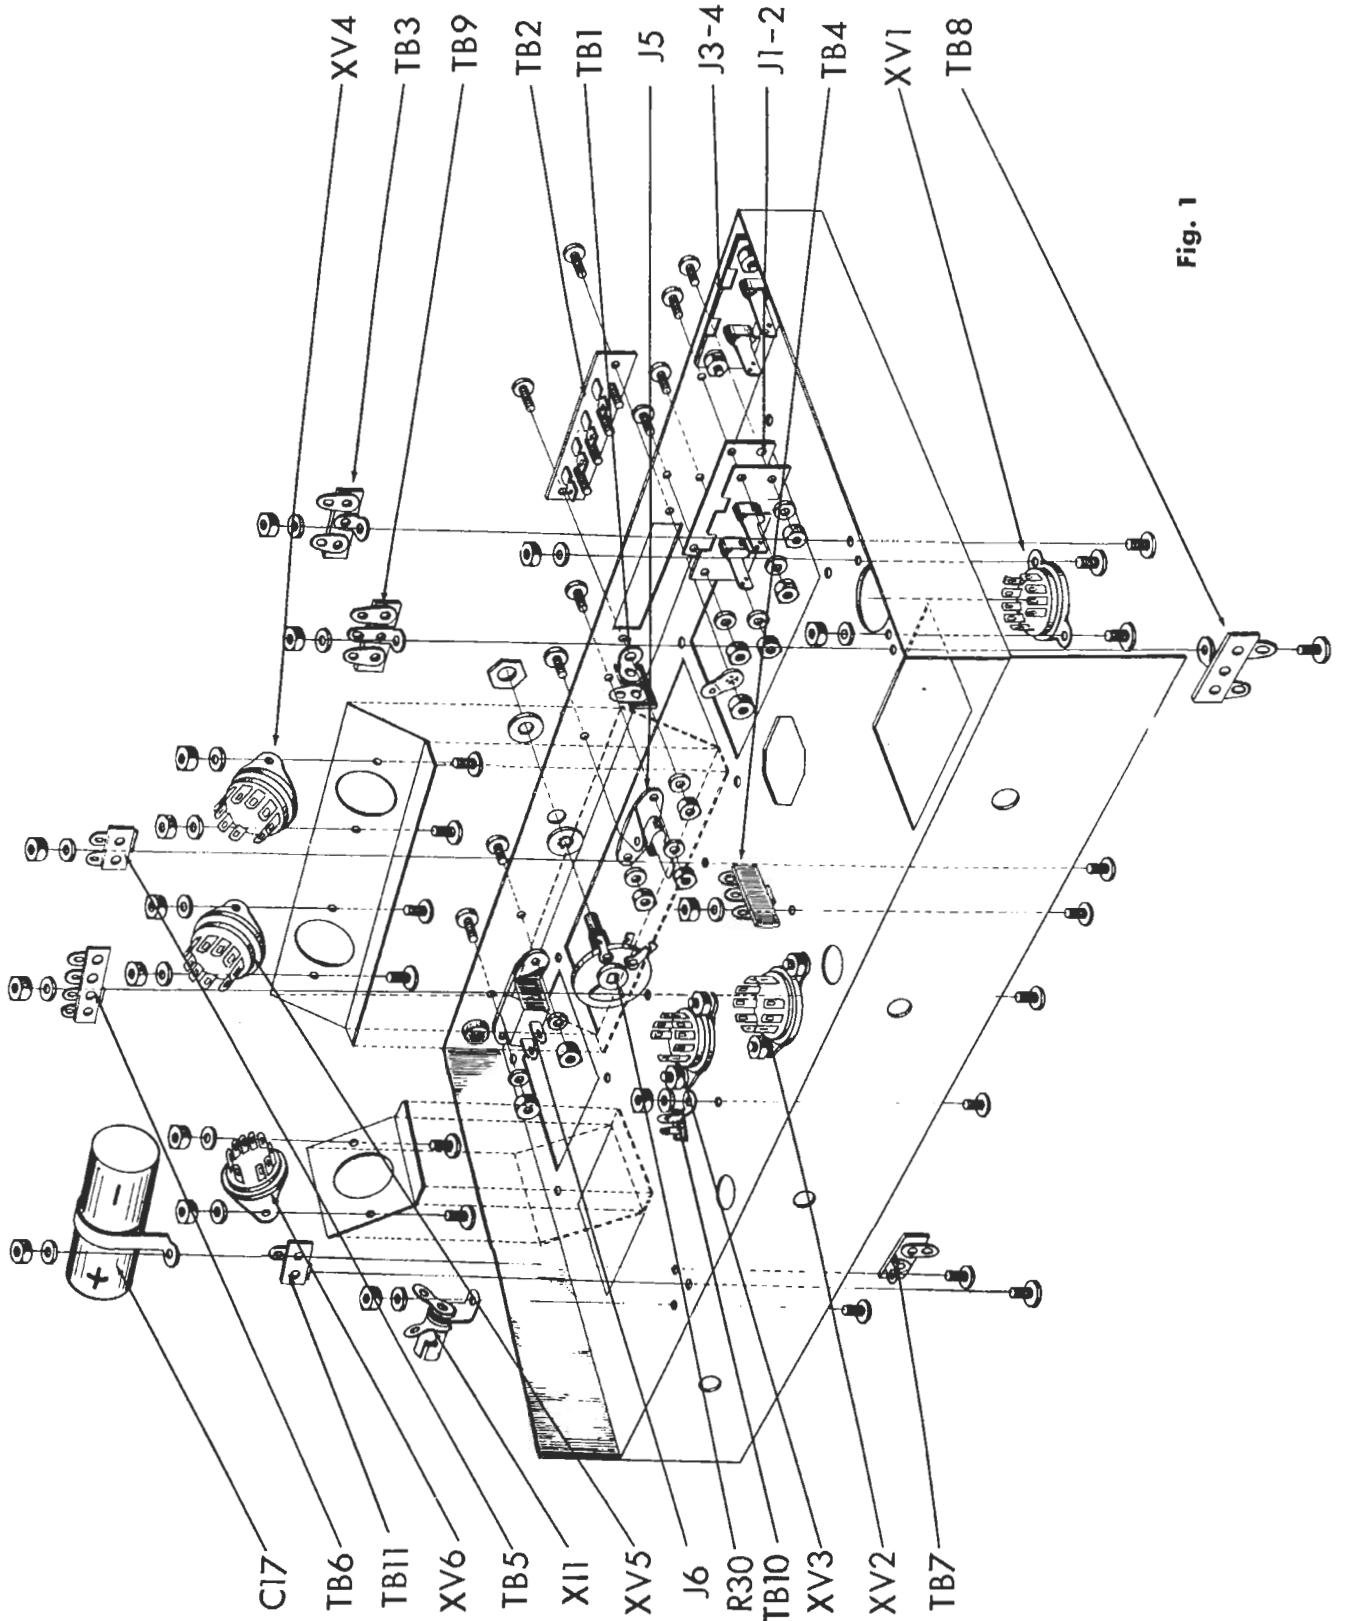
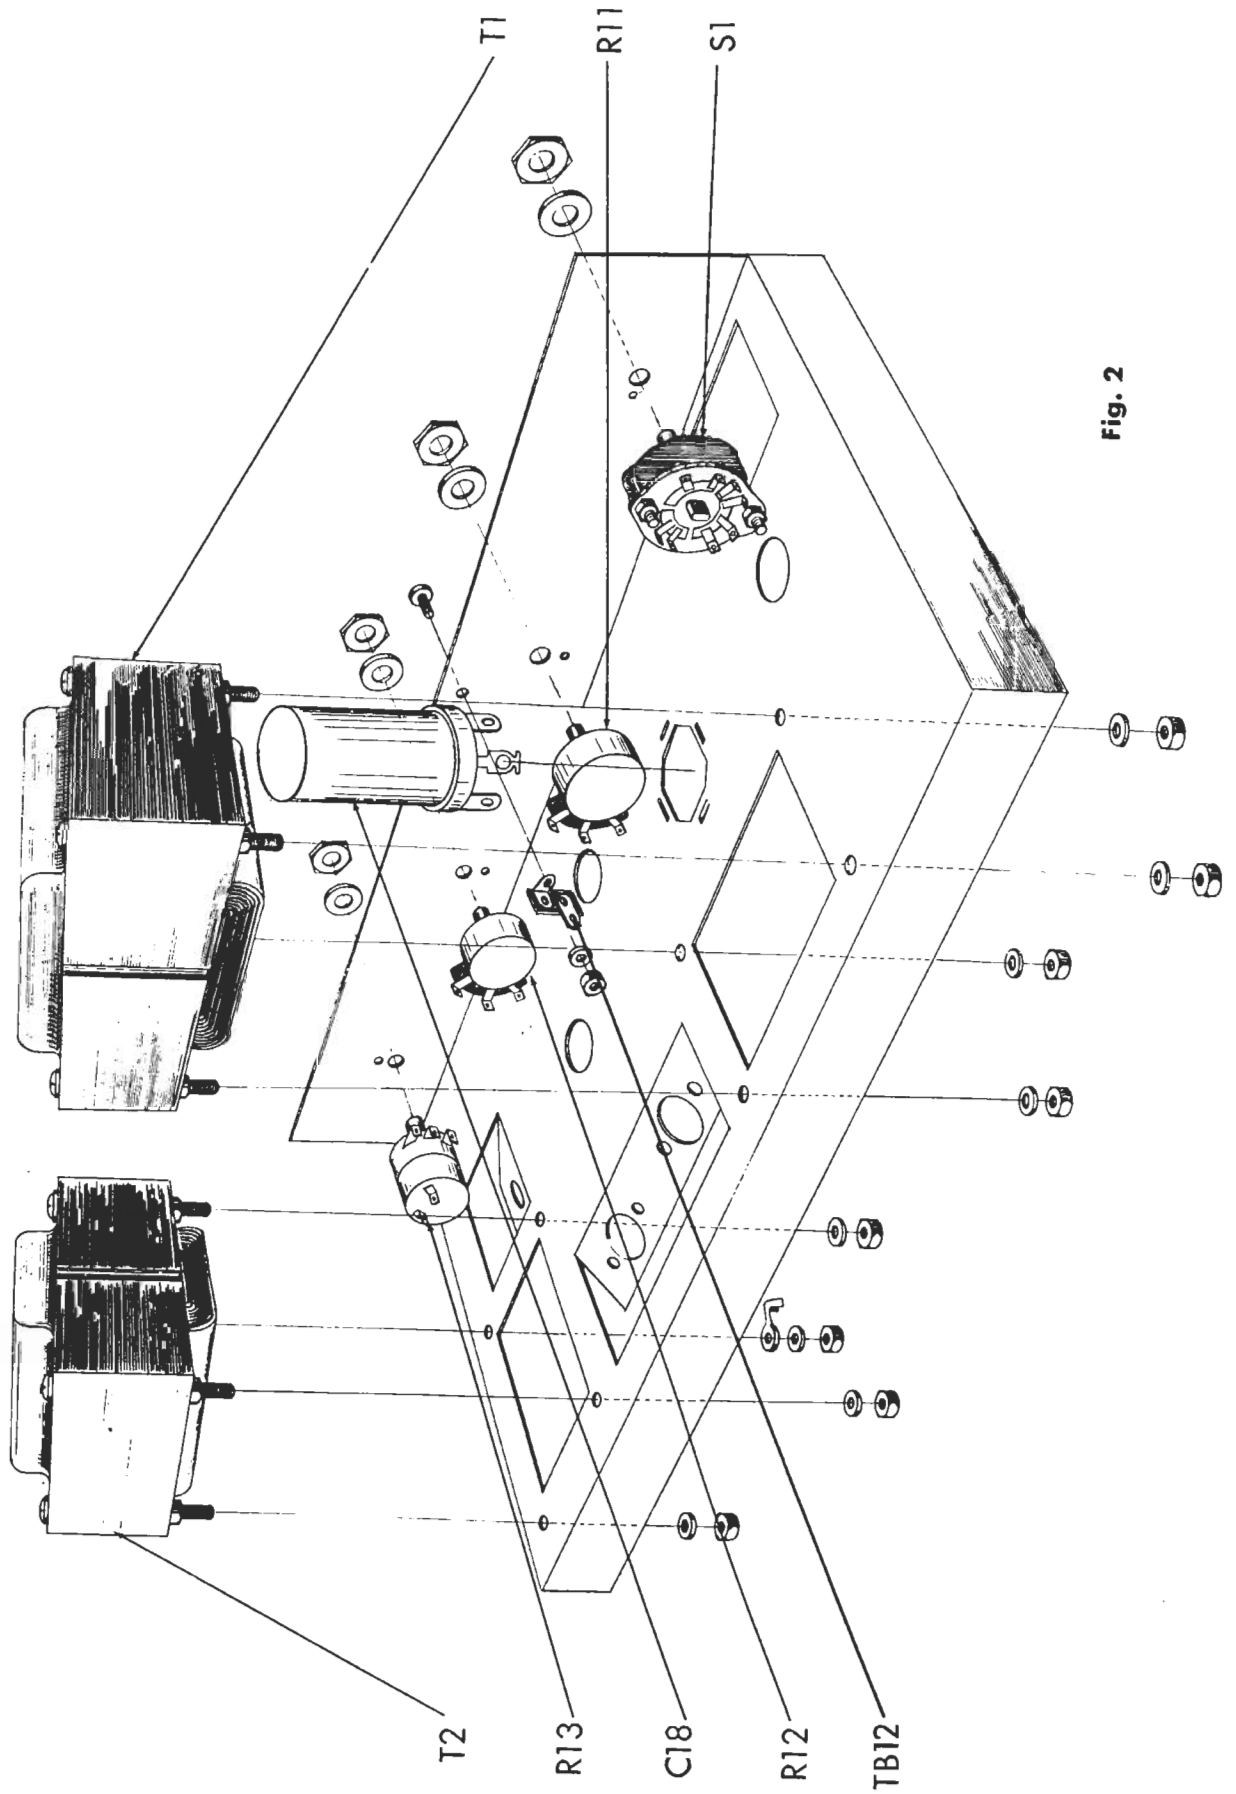
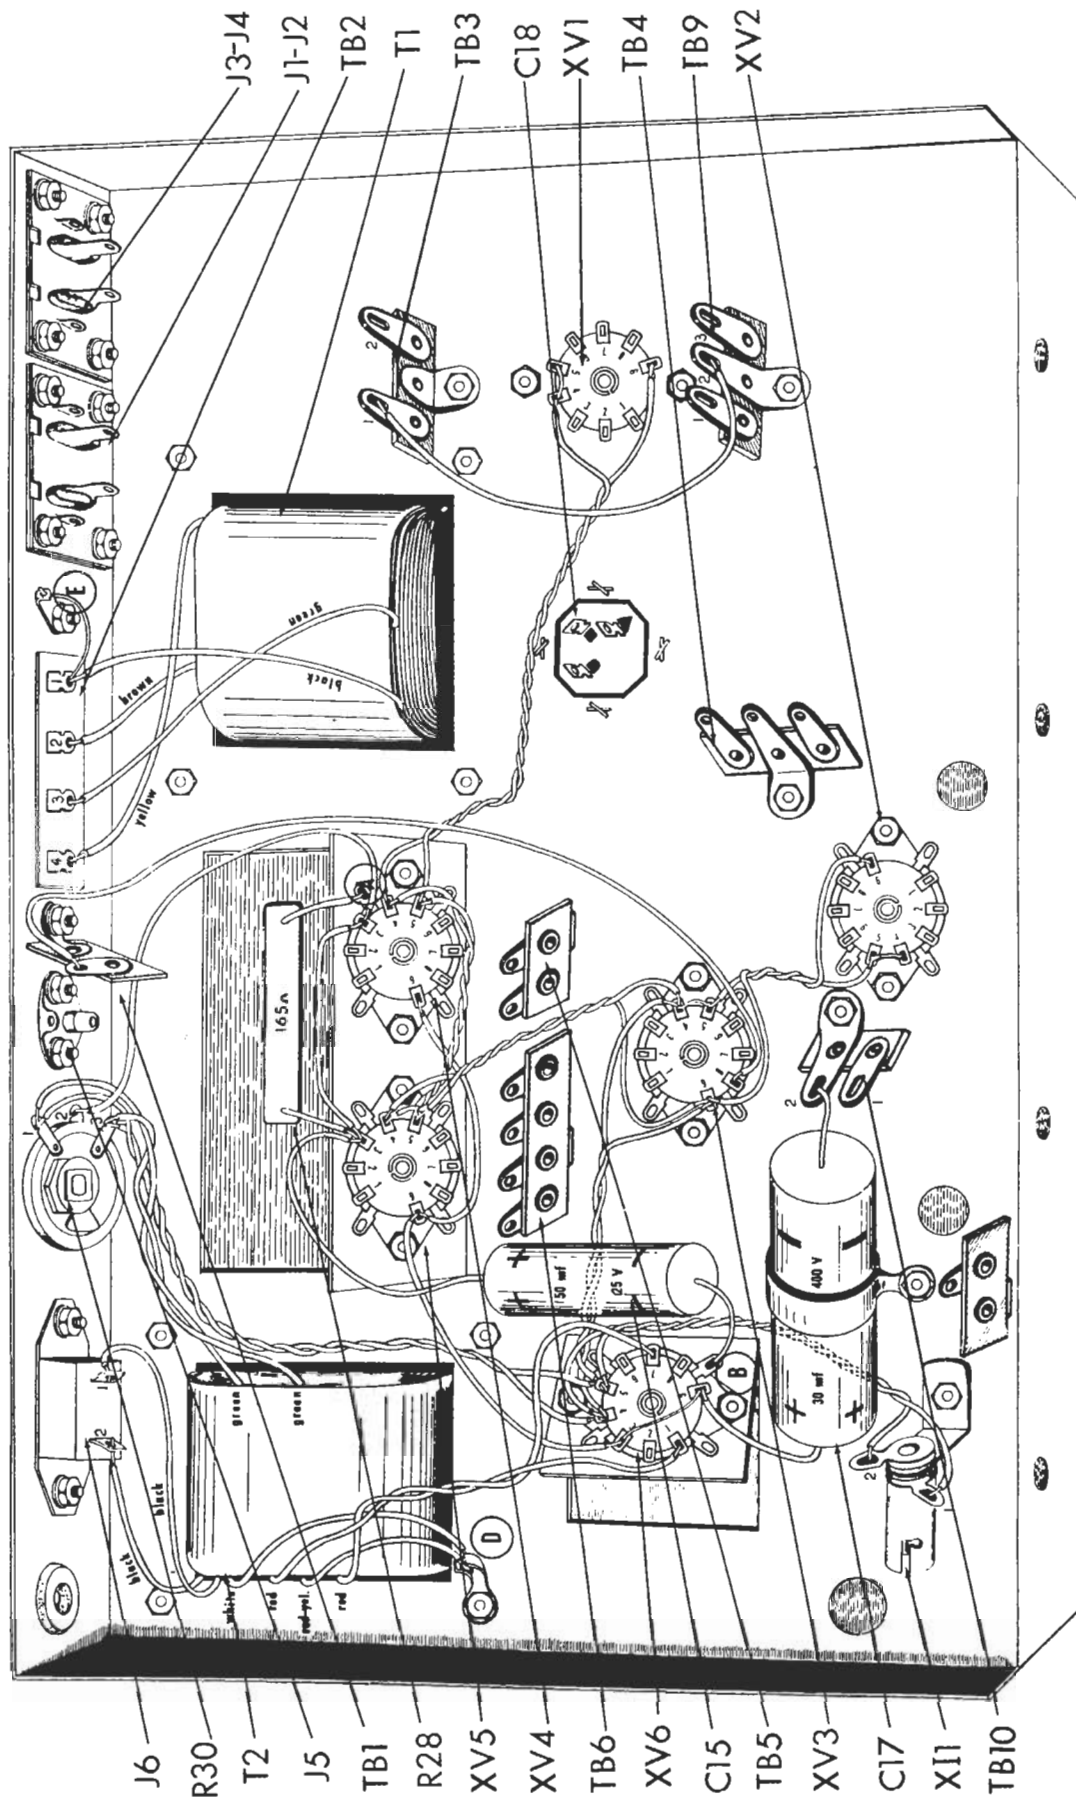

Fig. 1
Fig. 2
Fig. 3
NOTE: The chassis in Fig. 1 appears in exploded view. The angles on which the tube sockets are mounted are actually part of the chassis, but has been moved up, out of the chassis, to make component mountings more obvious. Refer to Fig. 3 for proper orientation of all components.
1. (✓) Fig. 1. Mount the 9 pin miniature tube socket with shield base XV1 as shown. Use two #4-40 screws, two #4 lockwashers and two #4-40 hex nuts.
2. (✓) Fig. 1. Mount the 9 pin miniature tube socket XV6 as shown. Use two #4-40 screws, two #4 lockwashers and two #4-40 hex nuts.
3. (✓) Fig. 1. Similar to the above, mount the 9 pin miniature tube sockets XV2, XV3, XV4 and XV5 as shown. Use two #4-40 screws, two #4 lockwashers and two #4-40 hex nuts for each socket.
4. (✓) Fig. 1. Mount the 4 screw terminal board, TB2 from the outside of the chassis as shown. Use two #6-32 screws and two #6-32 hex nuts. Under one #6-32 hex nut, mount a #6 ground lug. Under the other #6-32 hex nut, add a 1 post upright terminal strip, TB1, and a #6 lockwasher.
5. (✓) Fig. 1. Mount a 2 post terminal strip, TB3, as shown. Use one #6-32 screw, one #6 lockwasher and one #6-32 hex nut.
6. (✓) Fig. 1. Using the same mounting hole, mount a two post with ground terminal strip, TB9, from the bottom and a two post terminal strip, TB8, from the top. Use one #6-32 screw, one #6-32 lockwasher and one #6-32 hex nut.
7. (✓) Fig. 1. Mount a 2 post with ground terminal strip, TB4, as shown. Use one #6-32 screw, one #6-32 lockwasher and one #6-32 hex nut.
8. (✓) Fig. 1. Mount a 1 post right with ground terminal strip, TB5, as shown. Use one #6-32 screw, one #6 lockwasher and one #6-32 hex nut.
9. () Fig. 1. Mount a 3 post, 2 left with ground terminal strip, TB6, as shown. Use one #6-32 screw, one #6 lockwasher and one #6-32 hex nut.
10. () Fig. 1. Using the same hole, mount a 1 post left terminal strip, TB7, from the top and 30 mfd electrolytic capacitor, C17, as shown. Observe the polarity on the capacitor. Use one #6-32 screw, one #6 lockwasher and one #6-32 hex nut.
11. () Fig. 1. Mount the pilot light socket, X11, as shown. Use one #6-32 screw, one #6 lockwasher and one #6-32 hex nut.
12. () Fig. 1. Mount a 1 post left with a ground terminal strip, TB10, as shown. Use one #6-32 screw, one #6 lockwasher and one #6-32 hex nut.
13. () Fig. 1. Mount input jack board, J1-2 as shown. Use a bakelite insulator between the board and the chassis. Use four #6-32 screws, four #6-32 lockwashers and four #6-32 hex nuts.
14. () Fig. 1. Mount the input jack board, J3-4 as above. Use bakelite insulator as above. Use four #6-32 screws, four #6 lockwashers and four #6-32 hex nuts.
15. () Fig. 1. Mount tape output jack, J5, as shown. Use two #6-32 screws, two #6 lockwashers and two #6-32 hex nuts.
16. () Fig. 1. Mount the hum adjustment pot, R30 as shown. Use one 3/8 flatwasher, one 3/8 lockwasher and one 3/8 hex nut. Bend upper and lower lugs so that they neither protrude over bottom of chassis or touch the chassis proper.
17. () Fig. 1. Mount the convenience outlet, J6 as shown. Use two #6-32 screws, two #6 lockwashers and two #6-32 hex nuts.
18. () Fig. 1. Push the grommet through the remaining 3/8 hole in the rear of the chassis.
19. () Fig. 1. Mount #6 ground lug "1". Use a #6-32 screw and a #6-32 hex nut. See Fig. 5.
20. () Fig. 1. Mount a 1 post left terminal strip, TB11, as shown. Use one #6-32 screw, one #6-32 lockwasher and one #6-32 hex nut.
1. () Fig. 2. Mount the switch, S1, as shown. Note that the switch is in the maximum counter-clockwise position. Use one 3/8" lockwasher and one 3/8" hex nut as shown. Note that tab on switch slides into small hole adjacent to mounting hole.
2. () Fig. 2. Mount the pot, R11 (18038) as shown. Use one 3/8" lockwasher and one 3/8" hex nut. Note that the tab on pot slides into small hole adjacent to mounting hole.
3. () Fig. 2. Similar to the above, mount the pot R12 (18033) and the pot with the switch, R13 and S2 as shown. Note that in each case, the tab on the pot slides into small hole adjacent to mounting hole. Use one 3/8" lockwasher and one 3/8" hex nut in mounting each pot.
4. () Fig. 2. Mount the output transformer, T1 (32005) as shown. Use four #8-32 hex nuts and four #8 lockwashers. Note that the yellow lead and the brown lead face the rear of the chassis toward TB2.
5. () Fig. 2. Mount the power transformer, T2 (30019) as shown. Use four #8-32 hex nuts and four #8 lockwashers. Add a #8 ground lug under one of the lockwashers as shown. Note that the green leads face the center of the chassis and the tube sockets XV4 and XV5.
6. () Fig. 2. Mount the electrolytic can capacitor, C18 as shown. Note the mounting in Fig. 3 as to direction of triangle, semi-circle and square, next to the prongs on the capacitor. Insert the mounting tabs into the slots in the chassis and twist the tabs somewhat less than a quarter turn. DO NOT twist the tabs excessively or they will shear off. Solder one tab to the chassis at its slot.
7. () Fig. 2. Mount a 1 post left terminal strip, TB12, as shown. Use one #6-32 screw, one #6-32 lockwasher and one #6-32 hex nut.
1. () Fig. 3. Cut a 6" length of black wire and 6" length of brown wire. Connect one end of the brown wire to XV1-9(S) and one end of the black wire to XV1-4(S) through XV1-5(S). Twist the two wires and run along the chassis as shown. Connect the other end of the black wire to XV4-4(C) and the other end of the brown wire to XV4-5(C).
2. () Fig. 3. Following the above procedure, cut a 4" length of black wire and a 4" length of brown wire. Connect one end of the black wire to XV4-4(S) and one end of the brown wire to XV4-5(S). Twist the two wires and run along the chassis as shown. Connect the black wire to XV5-4(C) and the brown lead to XV5-5(C).